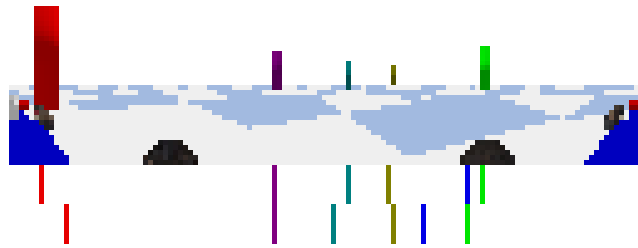

Figure 6: Debug images produced by the evaluation.
- (i) At the top of the notebook, a variable `supervision_mode` is defined. Set this to `"phi"` and run all the cells in the training notebook. This will train your network to predict the bearing angles of each landmark directly (6 channels, one for each landmark). After each epoch of training, the script will generate a set of debugging images that look like Figure 6. The first row of lines under the image shows the ground truth heading of the landmarks, while the second row shows the network's current predictions.